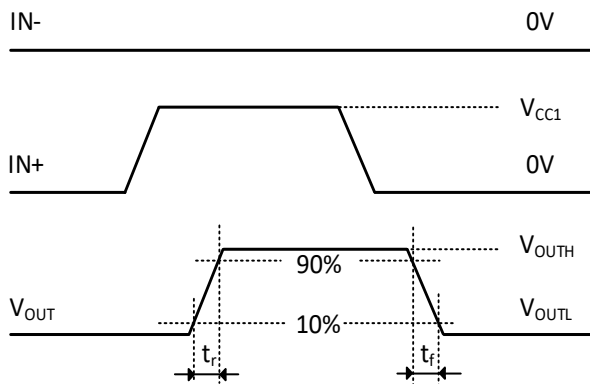

Figure21. Transition Time Waveform Measurement
(2)  $t_r$  means is the time from 10% amplitude to 90% amplitude of the rising edge of the signal,  $t_f$  means is the time from 90% amplitude to 10% amplitude of the falling edge of the signal. See Figure21.